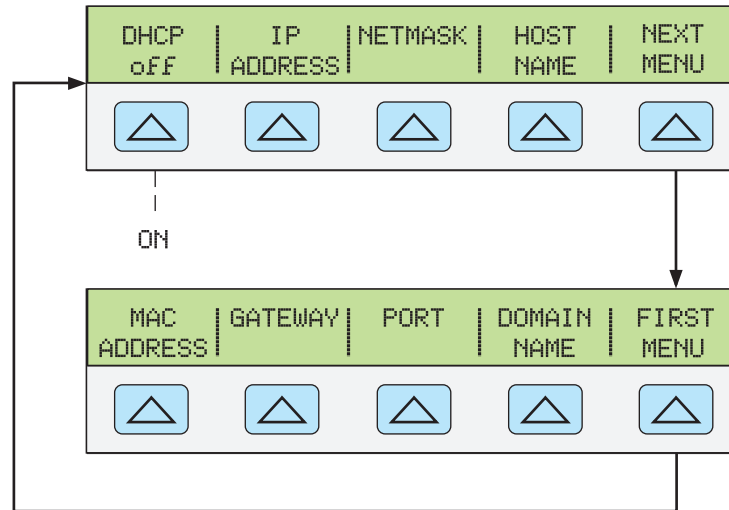

Figure 5-2. Menus to Set LAN Parameters
4. Push the softkey labeled **LAN SETUP**. The LAN parameters are set through the two softkey menus shown in Figure 5-2.